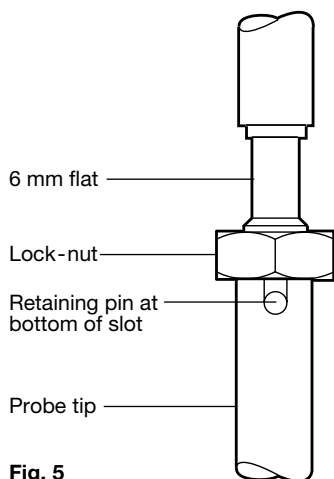

Fig. 5
- Screw the probe tip onto the probe until the hole in the probe lines up with the bottom of the slot in the probe tip (see Figure 5).